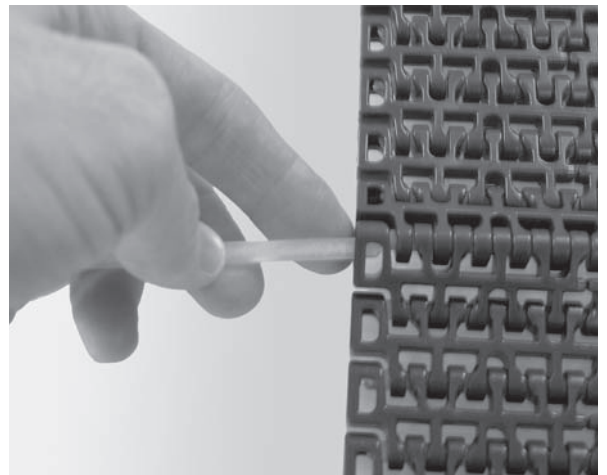

Figure 57
2. Use a second belt rod of the same size to push on the opposite end of the belt rod. (**Figure 57**).